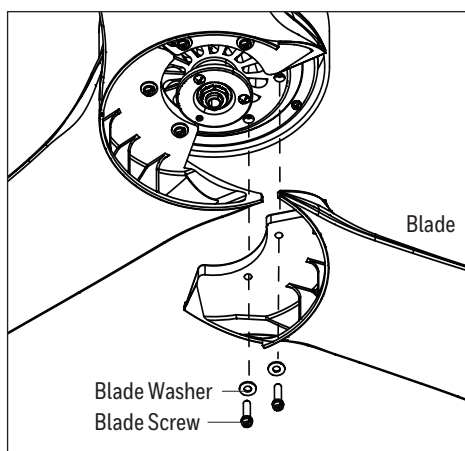

Figure 5.4
4. Align the holes of one blade with two blade screw holes in underside of the motor assembly. Secure with the two blade screws and blade washers. Repeat this step for the remaining blades (Figure 5.4).